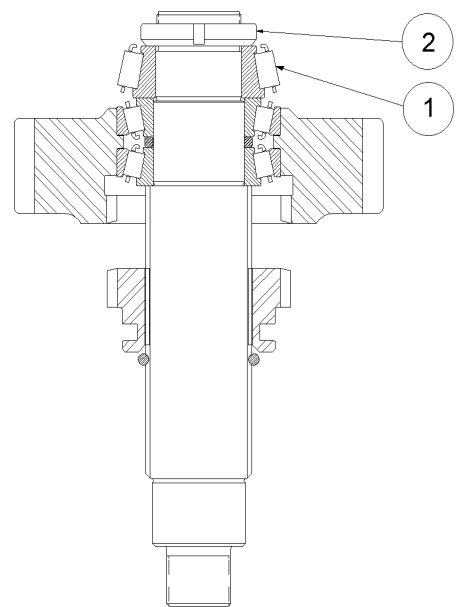

Fig 42
8. Install a heated bearing (1) onto the shaft. Install the bearing locknut (2) using #290 Loctite on the threads and torque to spec. See Fig. 42.